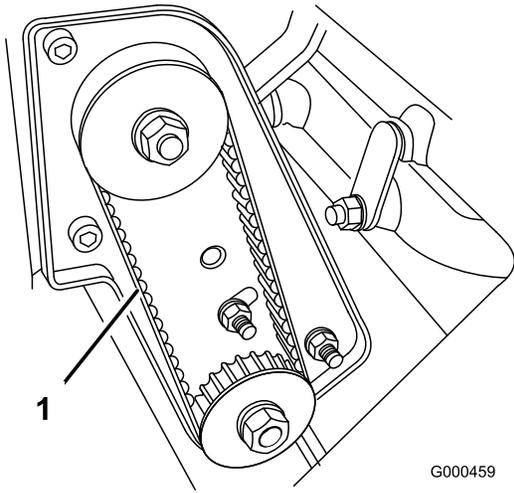

Figure 42
2. Check tension by depressing belt (Figure 42) at mid span of pulleys with 4 ± 1 lb. of force. Belt should deflect $3/16$ to $5/16$ inch (4.8 to 7.9 mm). If the deflection is incorrect, proceed to next step.